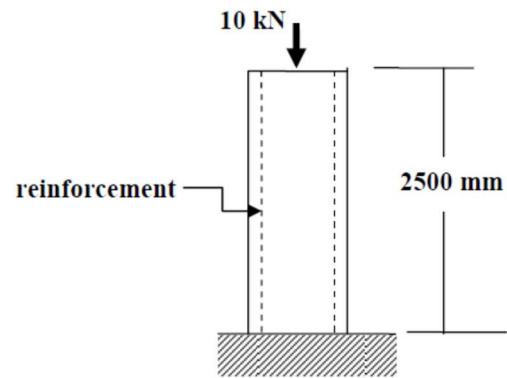

Fig.Q4
4. A reinforced concrete column shown in Fig.Q4 supports a load of 10 kN. The load is shared between the steel reinforcement and the concrete. The cross-sectional areas and Young's moduli are: